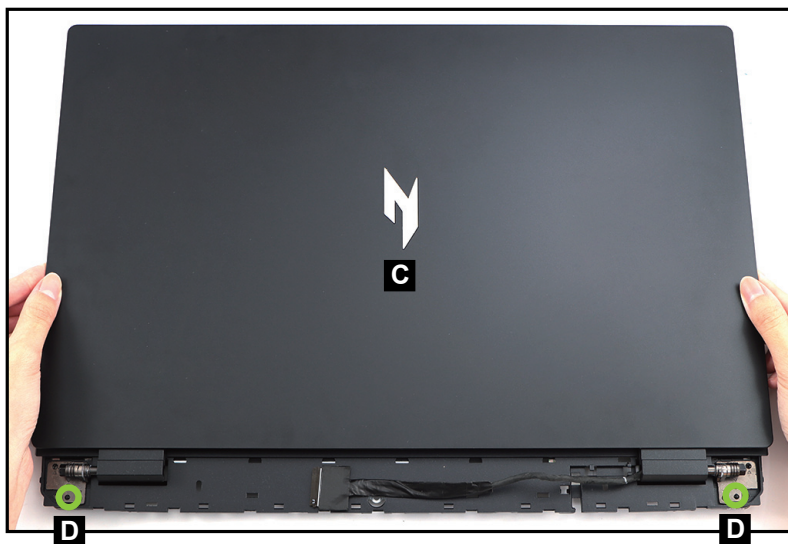

Figure 1-47. LCD Module Removal
5. Lift the LCD module (C) to release it from the guide pins (D) (Figure 1-47). Then remove the LCD module away from the top assembly.